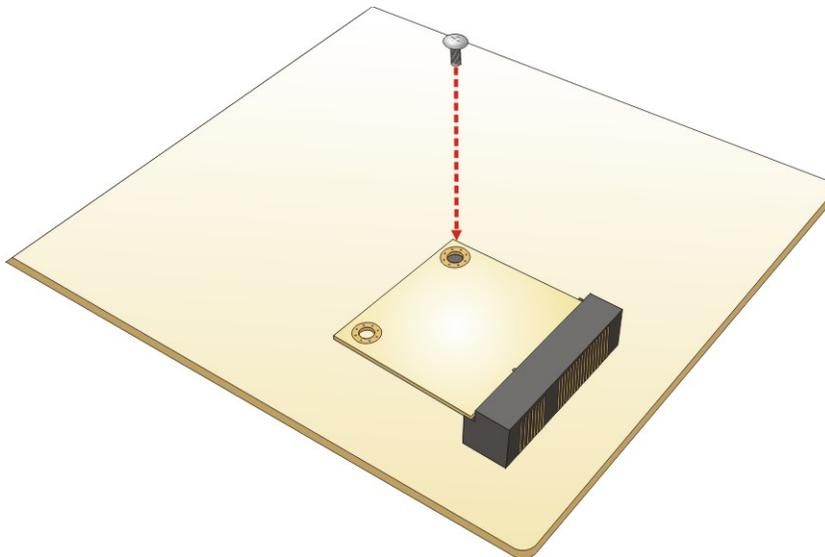

Figure 4-7: Securing the Half-size PCIe Mini Card
Step 4: **Secure the half-size PCIe Mini card.** Secure the half-size PCIe Mini card with the retention screw previously removed (**Figure 4-7**).